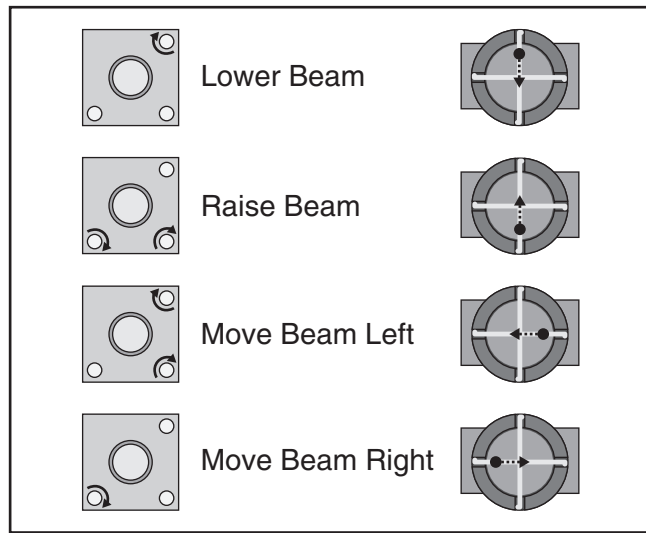

Figure 99. Mirror thumbscrew adjustment.
17. Adjust direction of beam path by tightening thumbscrews depending on desired direction of beam travel, as shown in **Figure 99**.
24. Adjust direction of beam path by tightening thumbscrews depending on desired direction of beam travel, as shown in **Figure 99**.